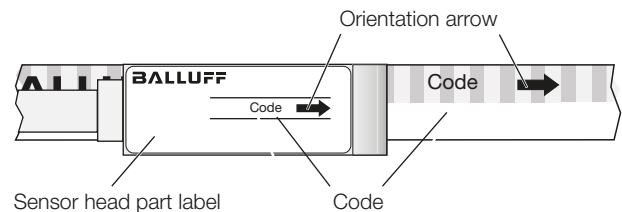
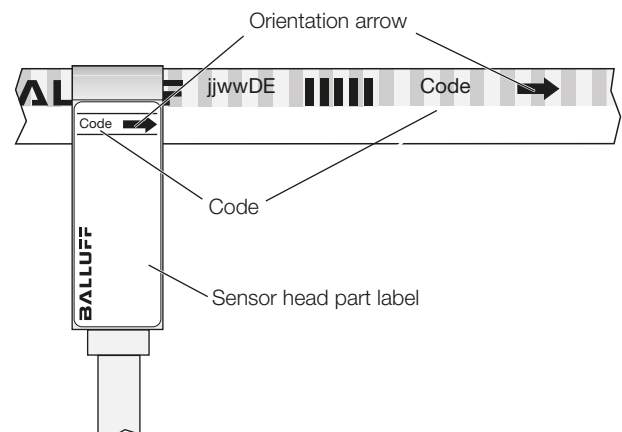

Fig. 4-1: Alignment of sensor head to magnetic tape – longitudinal variant
Fig. 4-2: Alignment of sensor head to magnetic tape – lateral variant
- The arrow printed on the tape must point in the same direction as the arrow on the part label of the sensor head (see Fig. 4-1 and Fig. 4-2 on page 10).